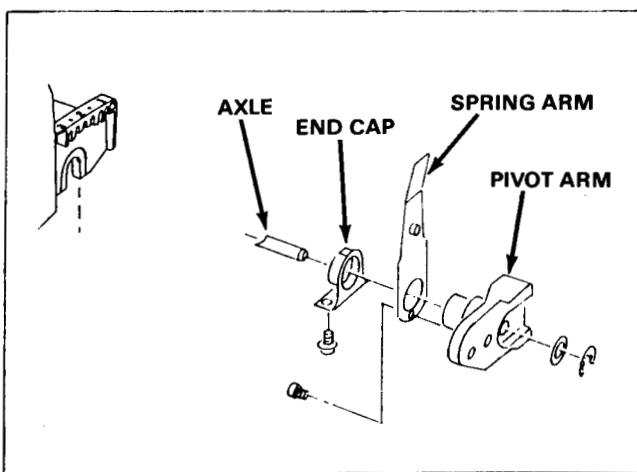

Figure 37
The wheel and tire assembly ride on shoulder bolts that are fastened into the pivot arms. See Figure 37.
3. Slide an end cap onto each end of the axle as shown in Figure 37. Slide the spring arm and pivot arm assembly onto each side of the axle, spring arm first.